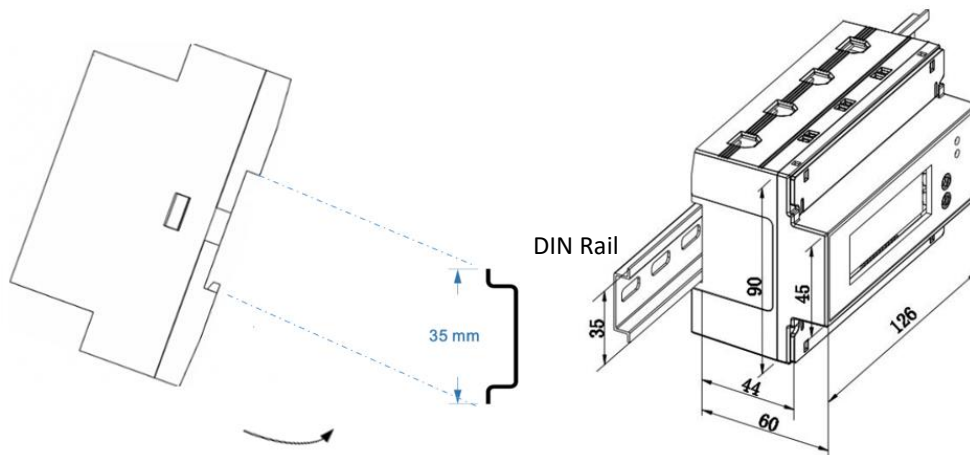

Figure 2-4 Installation
- Align the top of the mounting channel at the back of the PMC-340 at an angle against the top of the DIN rail as shown in Figure 2-4 below